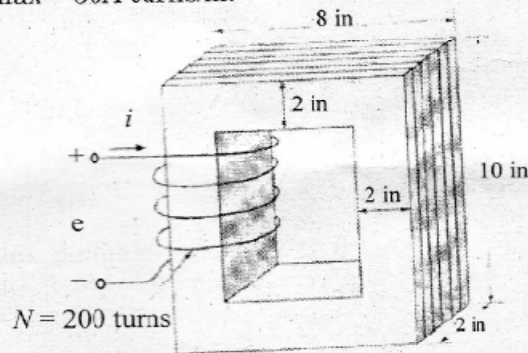

Fig.11(b)
- (b) The magnetic core in figure 11(b) is made from laminations of M-5 grain-oriented electrical steel. The winding is excited with a 60 Hz voltage to produce a flux density in the steel of $B = 1.5 \sin \omega t \text{ T}$, where $\omega = 2\pi 60 \text{ rad/sec}$. The steel occupies 0.94 of the core cross-sectional area. The mass-density of the steel is 7.65 g/cm^3 . Find :